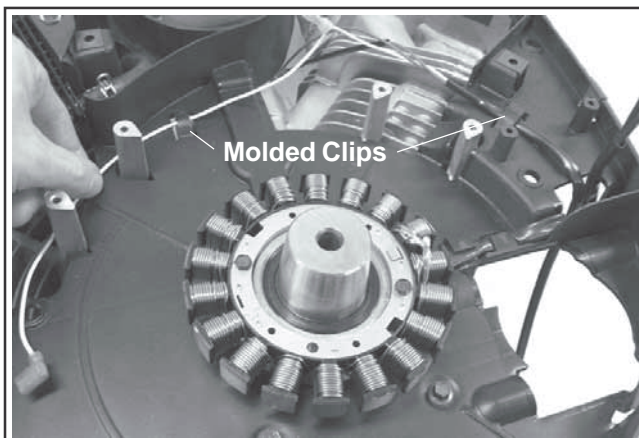

Figure 10-75. Installing Wiring Harness.
6. Install the wiring harness under the molded clips in the backing shroud assembly. See Figure 10-75.